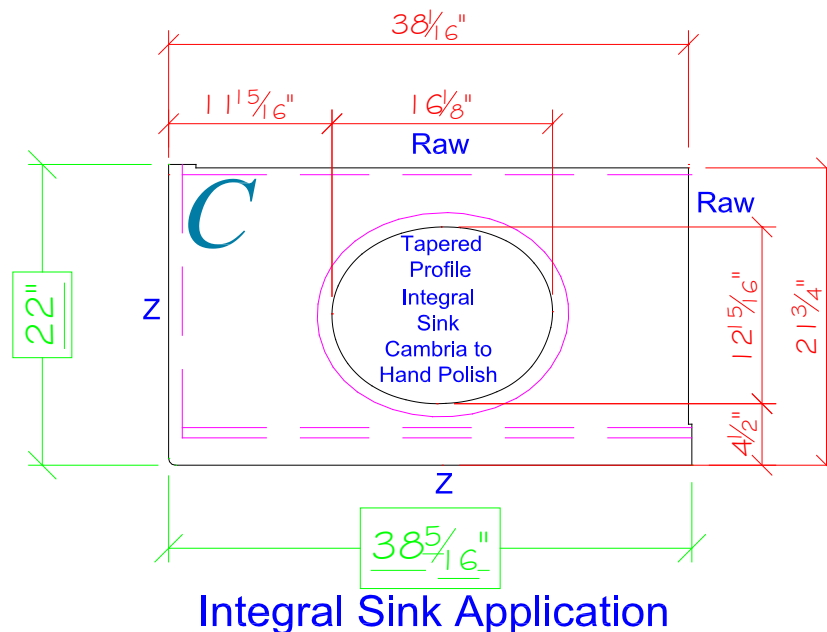

Figure 3
9. The CIA will label the cutouts on the drawings per SOP 9.2.2 with the additional information added to the cutout; “Integral Sink / Cambria to hand polish). Integral Sink Application must also be stated on the layout. See Figure 3.